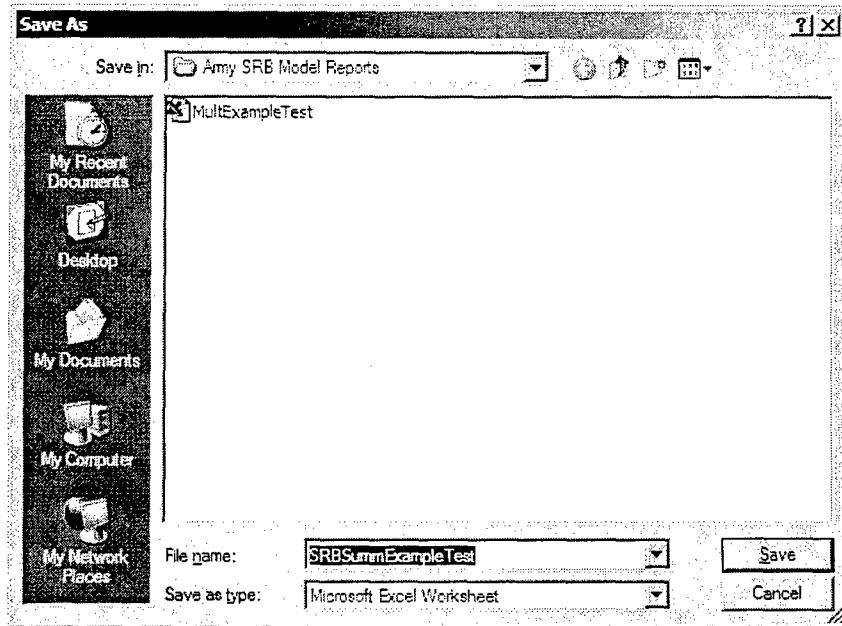

Figure 56. SRB Summary Report Export Save to Disk
5. When you save the workbook, you may also choose a different name by overwriting the default name in the File Name box (see Figure 56).